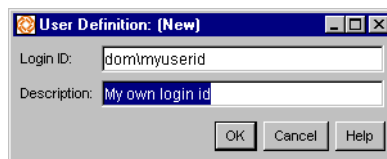

Figure 1-5 **New User Definition**
1. From the Console tree, right-click **ECC Users** under **Administration, Security Management**, and select **New**. The User Definition (New) dialog box appears (Figure 1-5).